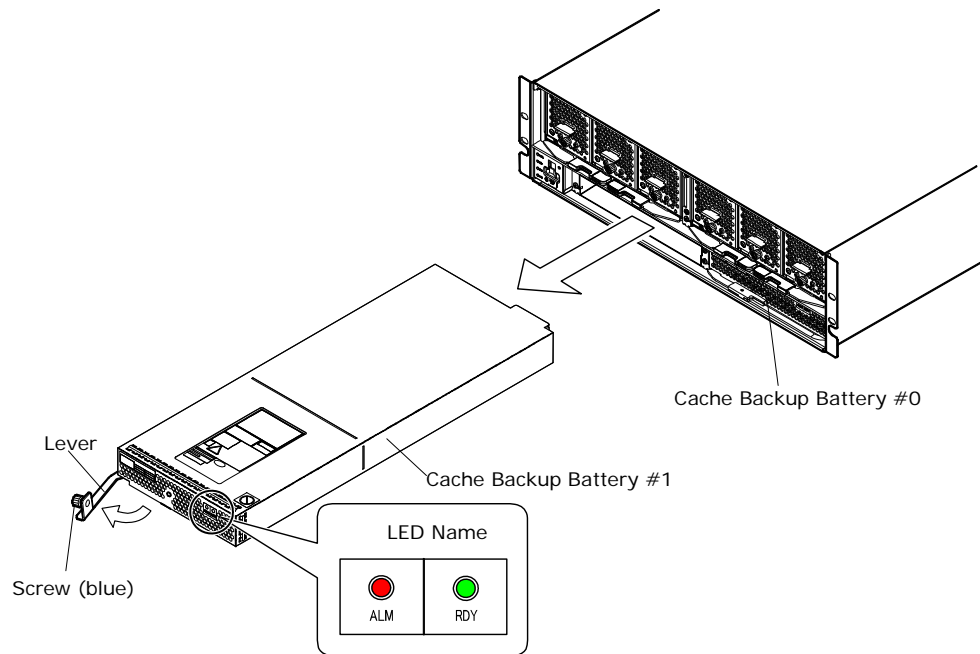

Figure 5-2: Replacing a cache backup battery on a CBL
Use the following procedure to remove the cache battery backup (and see Figure 5-2 on page 5-7):
- Red **ALARM** LED and orange **WARNING** LED on the front of the Controller Box are OFF. If the LED in Figure 5-2 is blinking slowly, visit the HDS Support Portal at portal.hds.com.